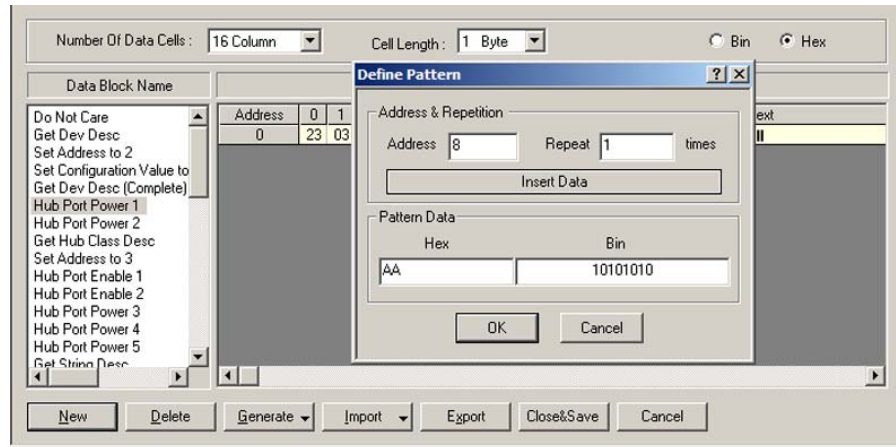

Figure 63 Define Your Own Data Pattern
1. Click the **Generate** button and choose **Pattern** to open the Define Pattern dialog box, as shown in Figure 63